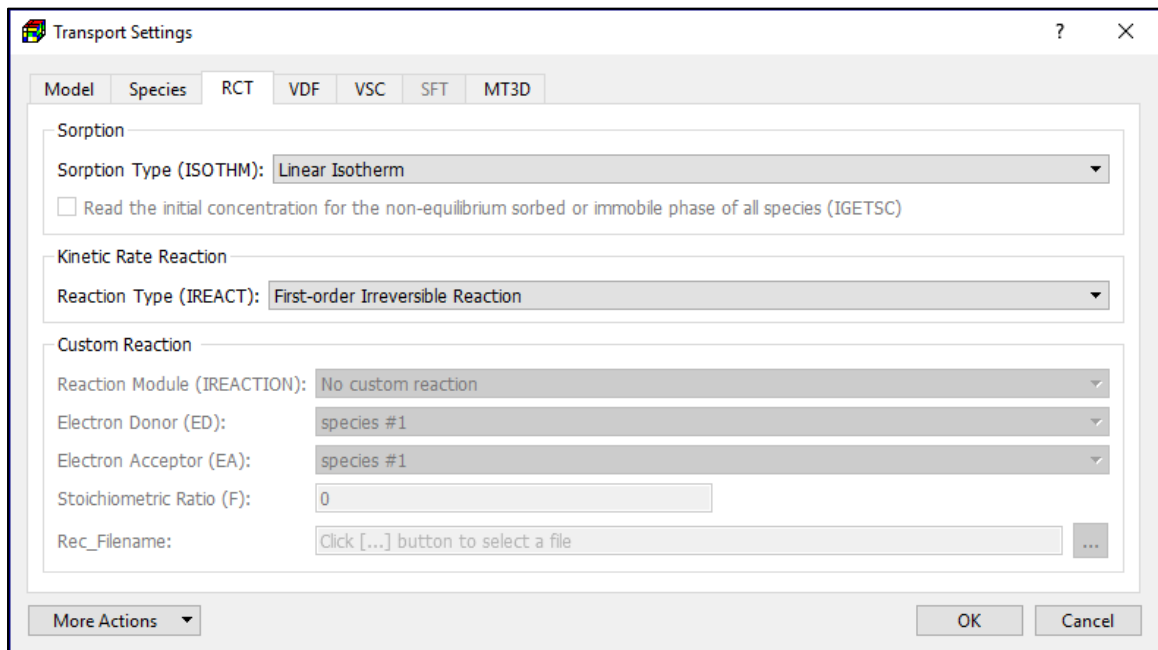

Figure 110. The RCT tab of the Transport Settings dialog box
- **DMUDC** is the slope that relates dynamic viscosity (μ) to solute concentration (C), i.e., $\partial\mu/\partial C$. This is used only if the Viscosity (VSC) package of SEAWAT is turned on.
4. **RCT Tab** (Figure 110) contains options for the Reaction Package. The available sorption and reaction types and their required parameters are described as follows. The required parameters for the selected options must be specified in the *Models > MT3D/SEAWAT > Packages > Reaction (RCT)* menu.